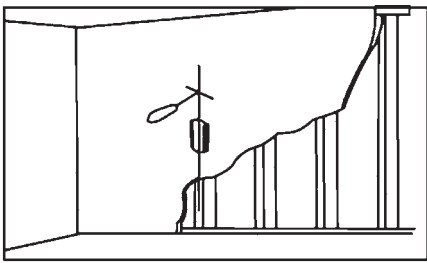

Fig. 2a
1. Use a pencil, awl, or a nail to mark the location of the wall stud centers (Fig 2a) after locating the stud with an electronic stud locator. The distance between marks should not be less than 16 inches (Studs must not be less than 16 inches (40.6cm).)